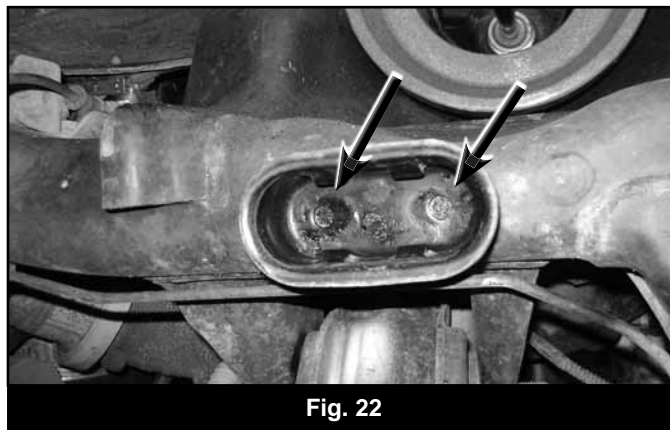

Fig. 22
55. Locate the center of the two circular recesses in the cup. Mark the centers and drill out to 5/16"~21/64". Install the 3/8" x 1-1/4" self threading bolts to cut threads into the frame. Remove the bolts after the threads are cut. BP# 784 (Fig 22)